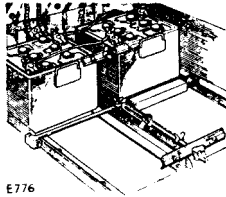

Fig. 91. Radio batteries
- (2) **Radio batteries.** Two 12 volt batteries connected in series giving 24 volts output are used for the radio system. They are housed in the body beneath the radio table and are protected by a metal cover. See Fig. 91.